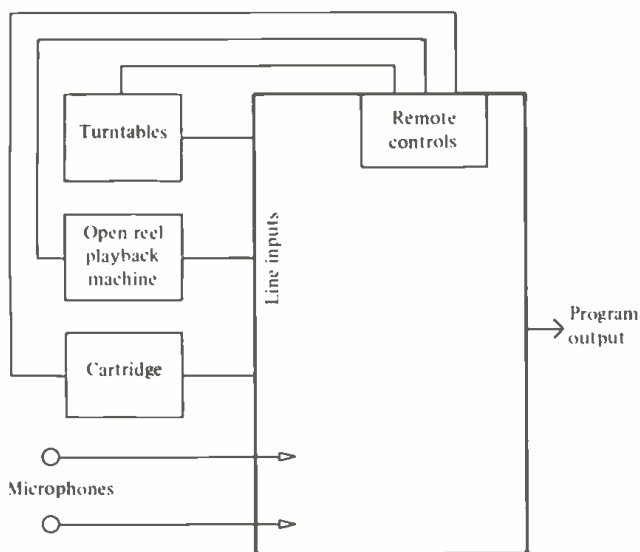

Figure 1. Block diagram of a typical manual operation.
In the manual operation, the console is basically a single-output summing amplifier. Remote start-and-stop controls are often a part of the console, as seen in FIGURE 1. Turntables, open reel playback machines, cartridge playback machines, and microphones feed the individual inputs of the board. The console operation opens and closes input faders and activates the sources by the remote control system on the board.
Figure 1. The three parts of the artificial microphone: a transformer, a resistive attenuator and a build-out network which restores the 150 ohm balanced impedance.
As shown in FIGURE 1, the device is, like Caesar's Gaul, divided into three parts. These are (1) a transformer; (2) a resistive attenuator; (3) a build-out network which restores the 150 ohm balanced impedance.